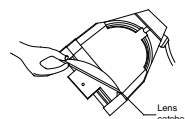

Figure 5
7. When the lens drops, remove your finger, allowing the lens to slide forward until it rests on the lens catchers (Figure 5).